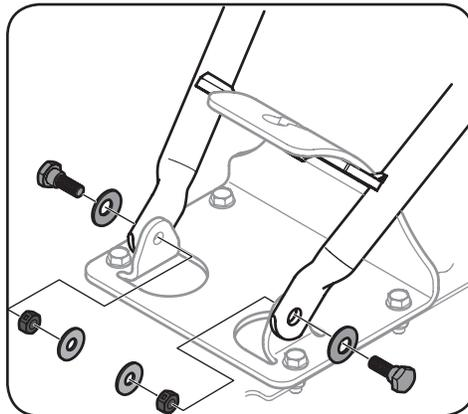

Figure 3-3
5. Loosely attach the handlebars to the mounting tabs with two shoulder screws (.437 x .268: 5/16 - 18), inserted through two Belleville washers (.450 x 1.0 x .062), then through the lower ends of the handle and the front holes on the bracket. Add flat washers (.349 x .879 x .063) on the ends of each and secure them by threading a hex lock nut (5/16-18) on each end. See Figure 3-3.